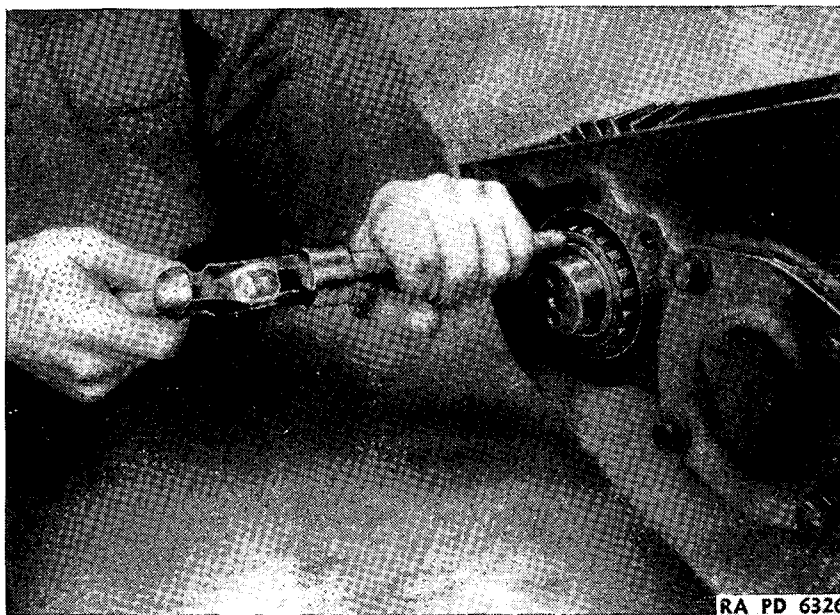

FIGURE 137.—Transfer case front-drive shaft rear bearing cone replacement.
(15) Replace front-drive shaft front and rear bearings—brass drift, hammer. Replace front and rear bearing cones and cups by driving in place (figs. 137, 138, and 139).
(16) Replace front-drive shaft front bearing cap—oil seal replacer, hammer, $\frac{5}{8}$ -inch socket wrench. Replace new oil seal in